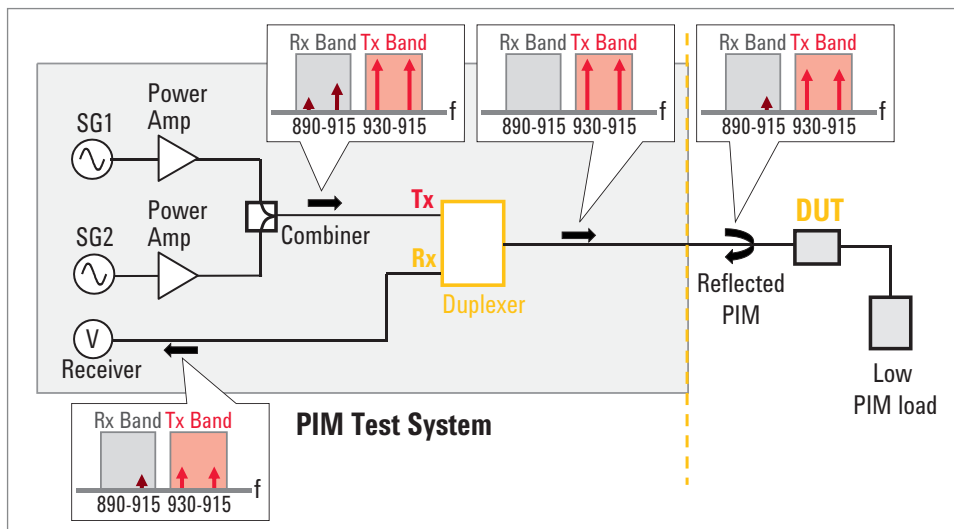

Figure 3. Typical configuration of reflected PIM test system for 900 MHz band
A typical test configuration of two-tone reflected PIM test solution for 900 MHz band is shown in Figure 3. RF signals at fundamental frequency from signal generators (SG) are driven by power amplifiers. The two high-power tones (i.e. +43 dBm) in transmitter band are combined with a combiner or hybrid coupler and applied to the DUT through a duplexer. The PIM products generated by the DUT are reflected, and the systems receiver measures the 3rd, 5th, or 7th order IM products in the receiver band. For reflected PIM measurements of 2-port DUT with this configuration, a low PIM load is connected to the other end of the DUT to absorb high-power signals.